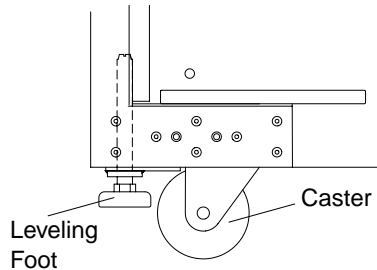

FIGURE 5-7 Retracting the Leveling Feet
10. **Raise the leveler feet and ensure that they are fully retracted into the cabinet frame (FIGURE 5-7).**